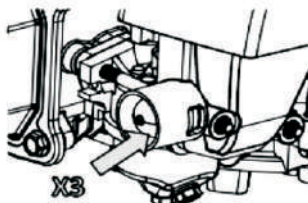

Fig 9.
- b). Push down the button three times (Fig 9).